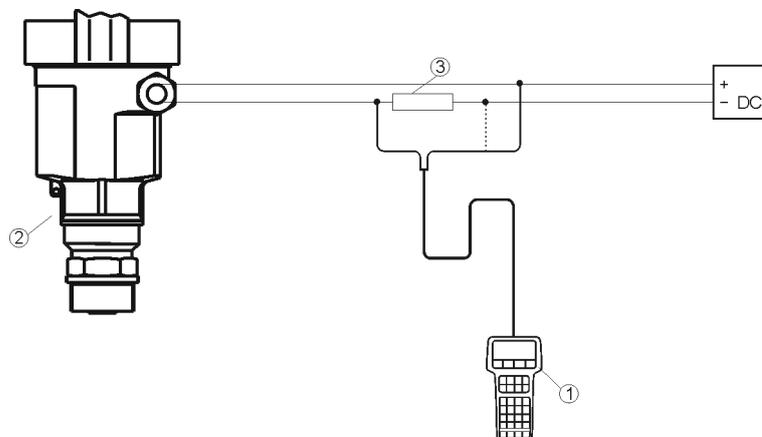

Fig.21
4.3.3 Connessione by HART programmer (fig.21)